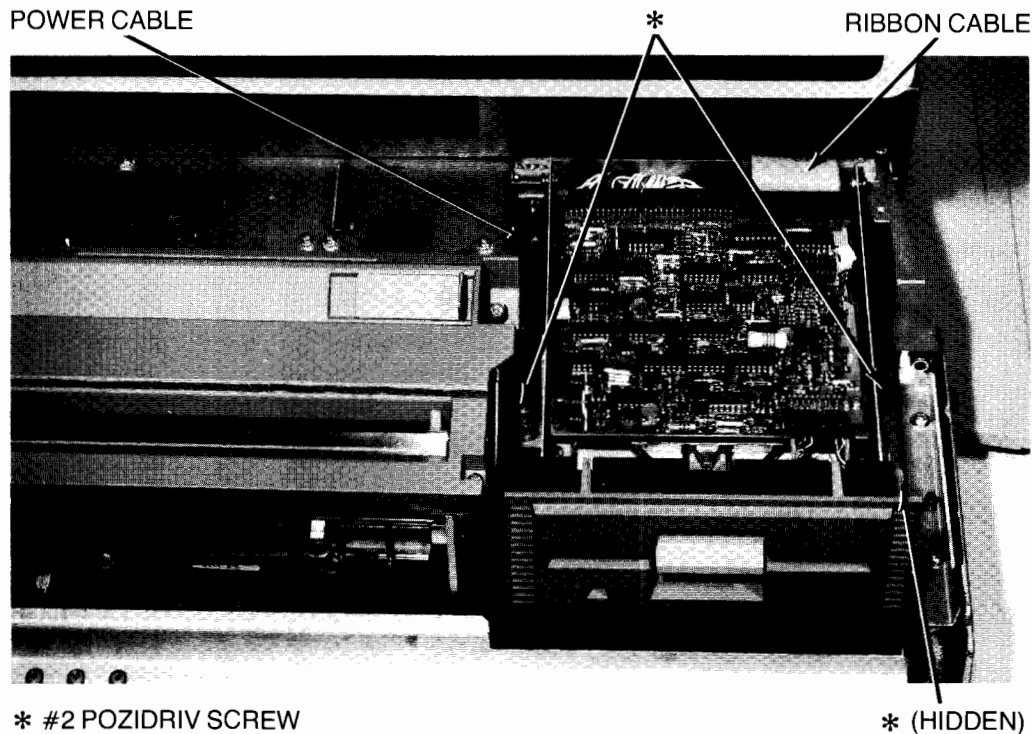

Figure 4-50. Removing Flexible Disc Drive
5. Disconnect ribbon cable from drive and disconnect power cable from intermediate cable connector (Figure 4-50).
6. Loosen three #2 Pozidriv captive screws that attach disc drive to computer (Figure 4-50), and lift disc drive out of computer.